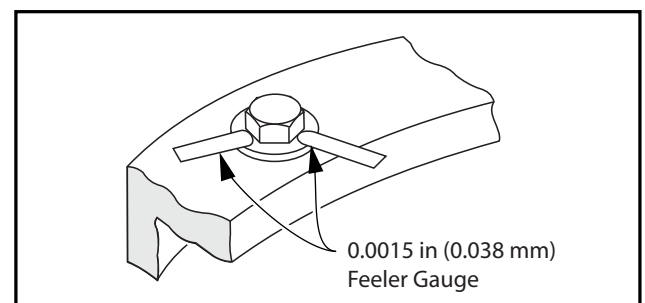

Figure 3-63. Turntable Side Bearing Bolt Feeler Gauge Check
- c. Ensure 0.0015 in (0.038 mm) feeler gauge will not fit under bolt head to bolt shank as shown in Figure 3-63.
- g. Ensure 0.0015 in (0.038 mm) feeler gauge will not fit under bolt head to bolt shank as shown in Figure 3-63.